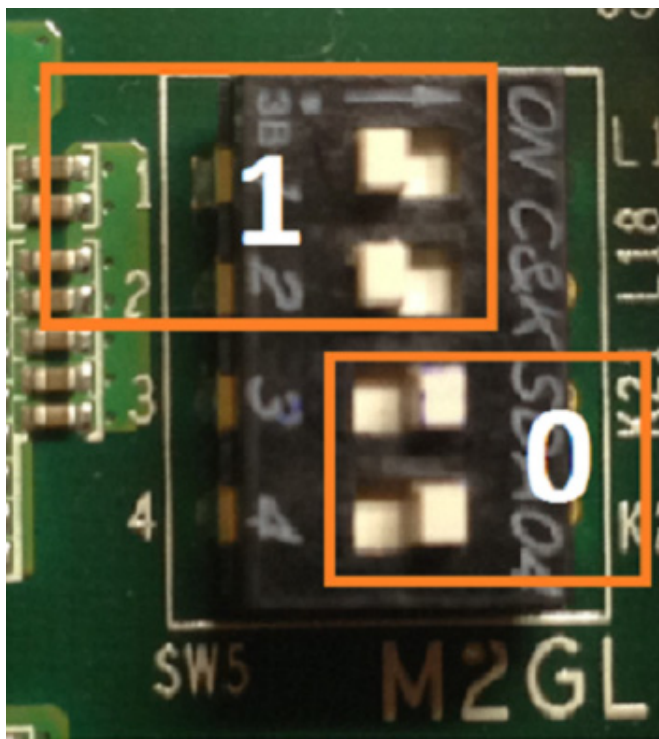

Figure 9 • Toggling DIP Switches
3. To wake-up the device from F*F mode, toggle DIP switches 1 and 2 to 1 position (OFF) **AND** toggle DIP switches 2 and 3 to 0 position (ON) as shown in Figure 9. Upon this setting, the device exits from F*F mode. Observe that the LEDs start to toggle again indicating that the device exited from the F*F mode.
Note: The DIP switches combination shown in Figure 9 on page 12 constantly keeps the device in active mode, since that combination is configured to wake-up the device. Before proceeding to the next step, ensure that the combination setting of the DIP switches is different than what is shown in Figure 9 on page 12.